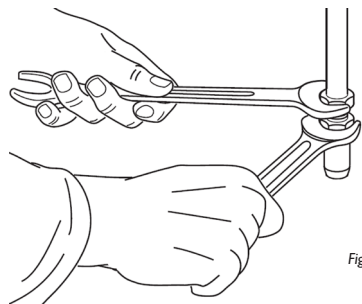

Fig. 2.3
The coupling group (fig. 2.3) consists of:
- use two keys to secure the parts (Fig. 2.3).
- use two keys to secure the rigid or flexible tube (Fig. 2.3)